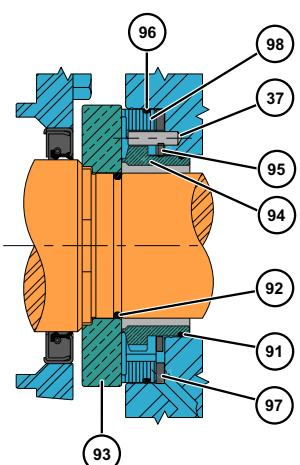

Figure 69 - Double Mechanical Seal
7. If a double mechanical seal is used, install the outer wave spring (Figure 69, item 97) in the body and the outer O-ring (item 96) in the outer seal groove (item 98). Place the outer seal in the pump body around the inner seal, aligning the notches in the outer seal with the stop pins in the body.